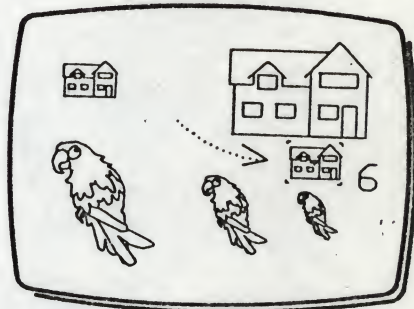

Fig 4
- 6 Press and release T again, the original library unit is erased and re-drawn as defined by the movable cursor frame, as in Fig 4.